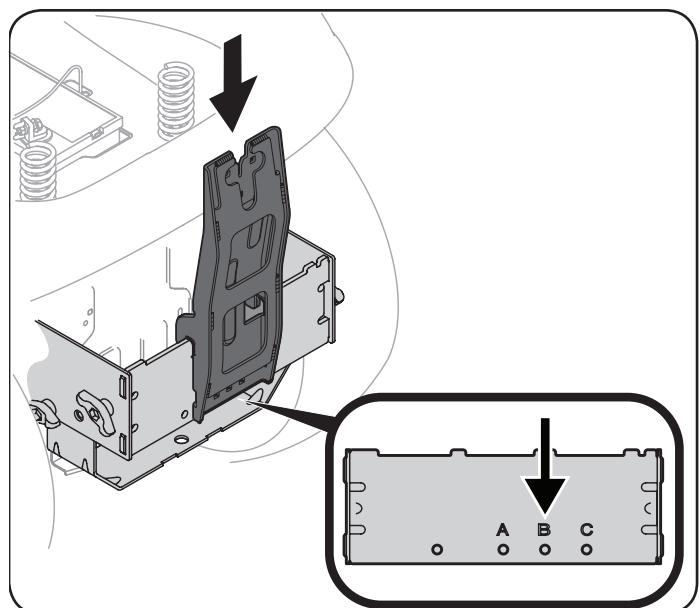

Figure 10
1. Install the upright support bracket onto the mounting assembly on the tractor by hooking it over the cross mounting bracket. See Figure 10.
2. Align the upright support bracket with the hole labeled "B". See inset in Figure 10.